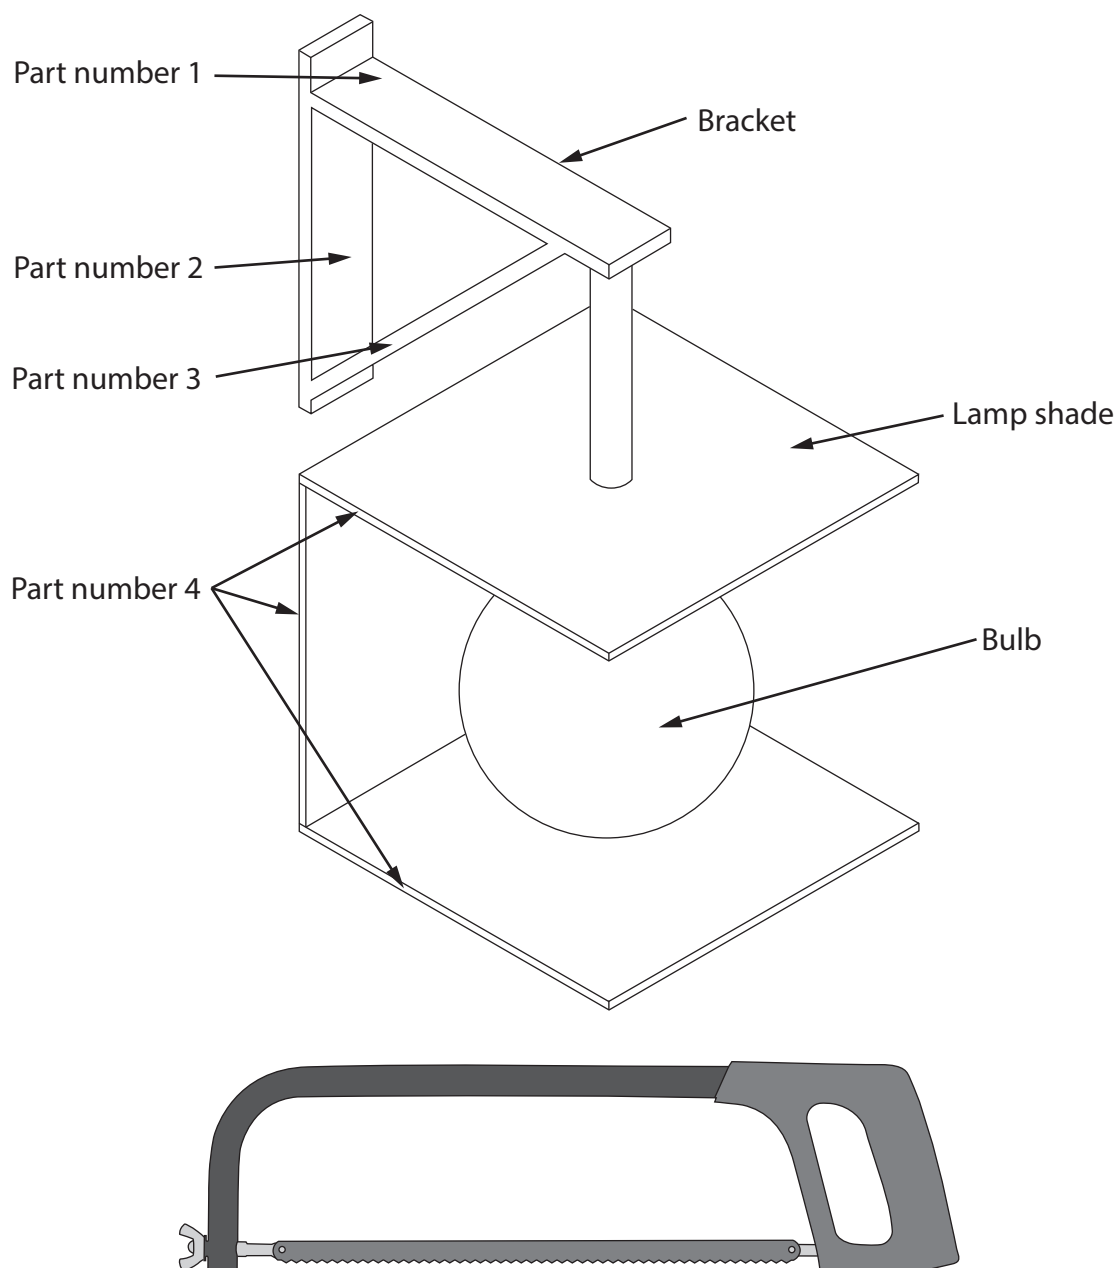

Figure 12
- 7 Figure 12 shows a wall-mounted lamp and a saw that is used during its manufacture. The bracket has been manufactured from steel stock materials.
- (a) Name the specific type of saw shown in Figure 12.